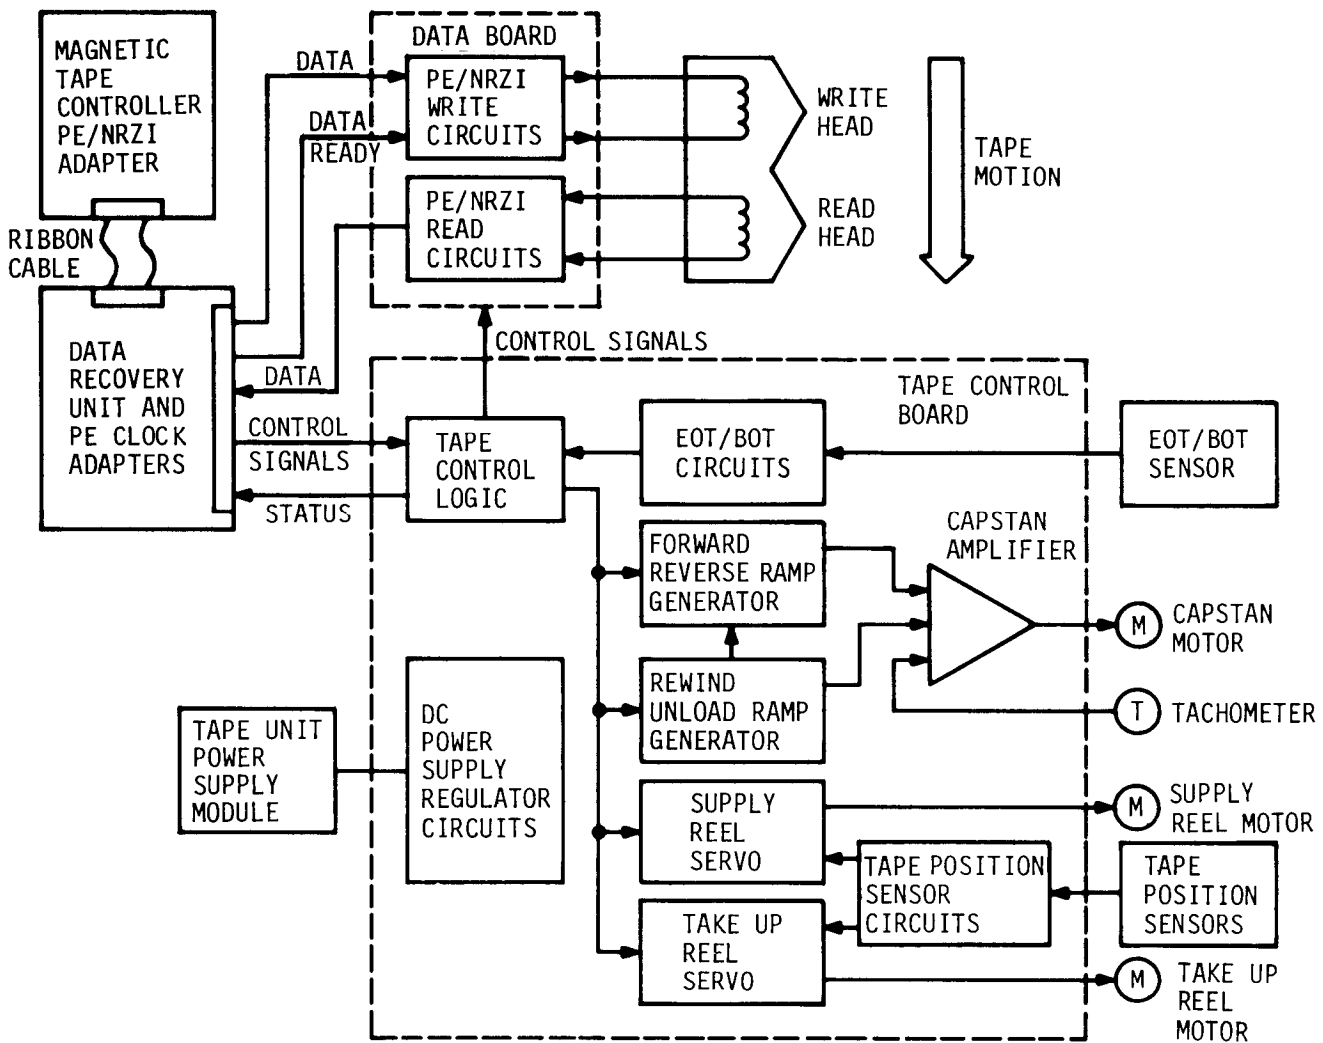

Figure 2-5. Tape Drive Functional Block Diagram
(1) Tag/Bus In/Bus Out Signals. All commands are delivered to the disk drive unit via tag and bus out signal lines. Tag signals identify the operation to be performed and bus out signals modify or clarify that operation. Each time the disk drive unit receives a tag/bus out command, it responds by sending status information back to the controller through the bus in signal lines.
(2) Discrete Signals. Those signal lines carry clock, status, control, and read/write data signals between the disk drive units and the controller.
h. Magnetic Tape Drive Units. The tape drive functions (fig. 2-5) are: read/write data on command; provide control and/or status program data to supplement the system; provide a means of recording and storing data or instructions for spare or historical purposes. Signals are received from and transmitted to the CPU through the PE/NRZI data boards.
(1) PE data board signals are driven directly on the interface signal lines through the magnetic tape controller adapter pac in the CPU.
(2) NRZI data board signals are first buffered (stored) and then strobed out with a read strobe to the appropriate magnetic tape controller adapter pac in the CPU.